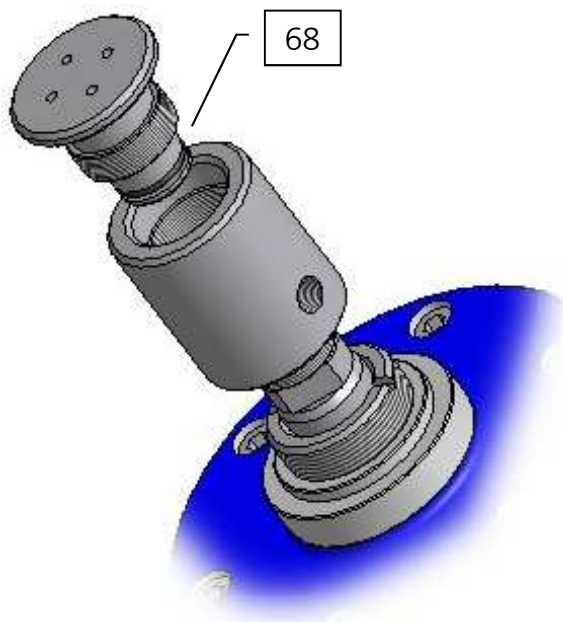

Figure 43 – Check valve Nut
Fit new 'O' Ring (68) to the Check Valve Nut (65) Figure 43.
(Figure 43)